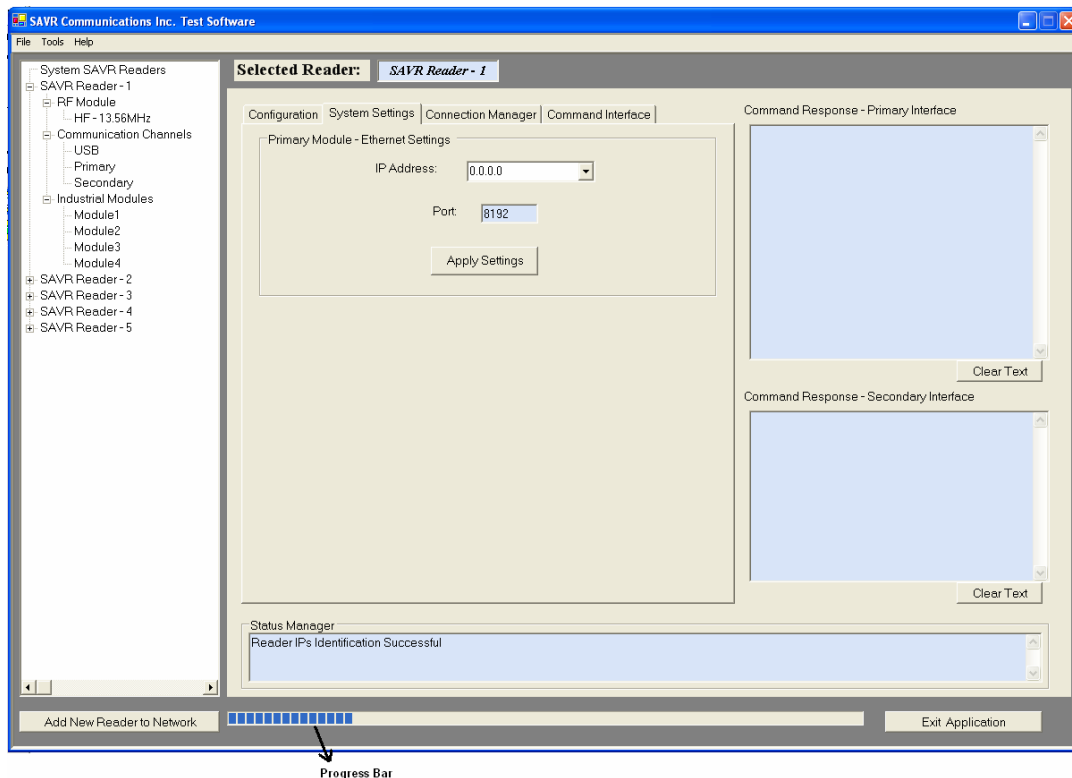

Figure 3
**“System Settings” Tab (Figure 3):** The System Settings Tab contains all the communication setting parameters for the Primary and Secondary Communication Modules. Once you select the primary communication channel of the given RFID reader, the “System Settings” Tab contains all the communication parameter options available for the respective communication channel. For example if you choose RS232 as the primary communication channel, options available are Port, Baud, Data Bits, Stop Bits and Parity. But if you choose Ethernet as the Primary communication channel, the options available will be IP Address and Port number.